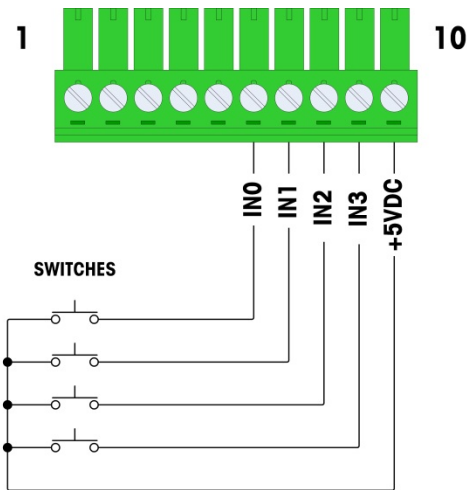

Figure A-79: Example of Active Input from Switches
Selecting the inputs as active enables connection of switches or other simple devices to trigger an input. No voltage is supplied by the external simple device. An example of how to wire to the active inputs is shown in Figure A-79. Note that pin 10, the +5VDC connection, can carry no more than 200 mA current.
- The +5VDC shown in Figure A-79 is referenced to an internal ground inside the discrete I/O card. Measuring from pin 10 to the IND780 chassis ground will **not** show +5VDC. The +5VDC output is used internally, and has no function except for digital inputs as shown in Figure A-79.